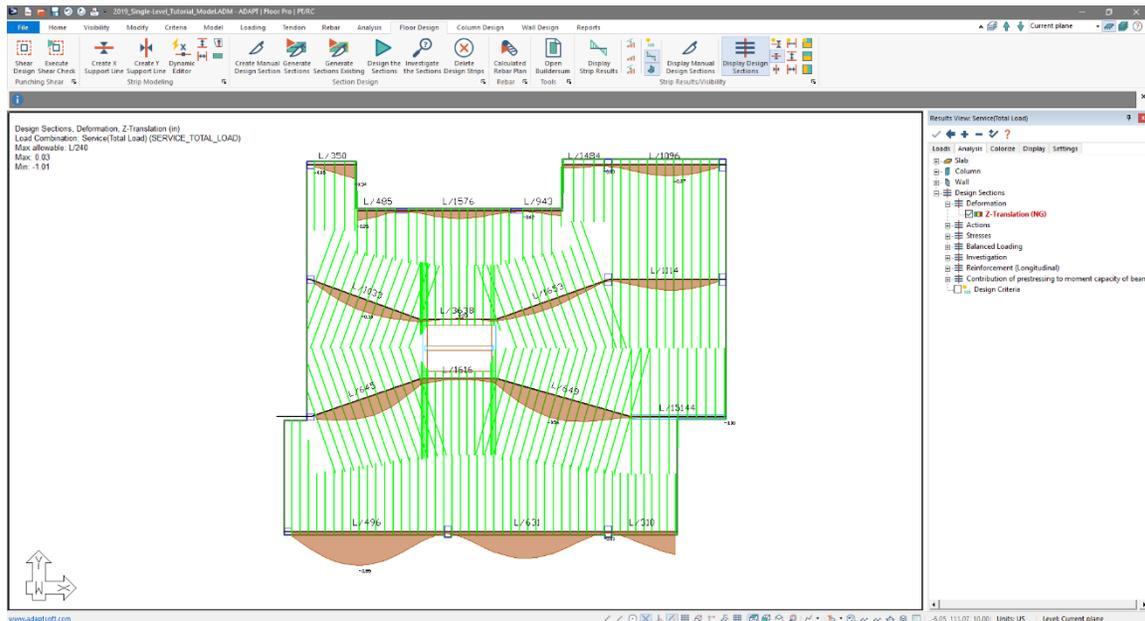

Figure 8-48
- Click on the check box for *Z-Translation*, the screen should change to show the results of the deflection as well as the deflection to span ratio for each span along the support lines as shown in **FIGURE 8-48**.